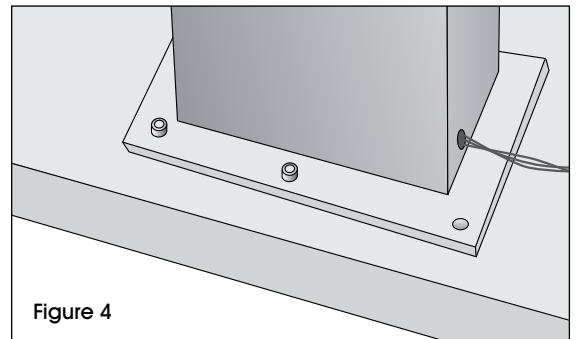

Figure 4
3. Align the 5 bolts in the threaded inserts and tighten completely. Next, the carriage will need to be mounted to the tower. (See Figure 4)